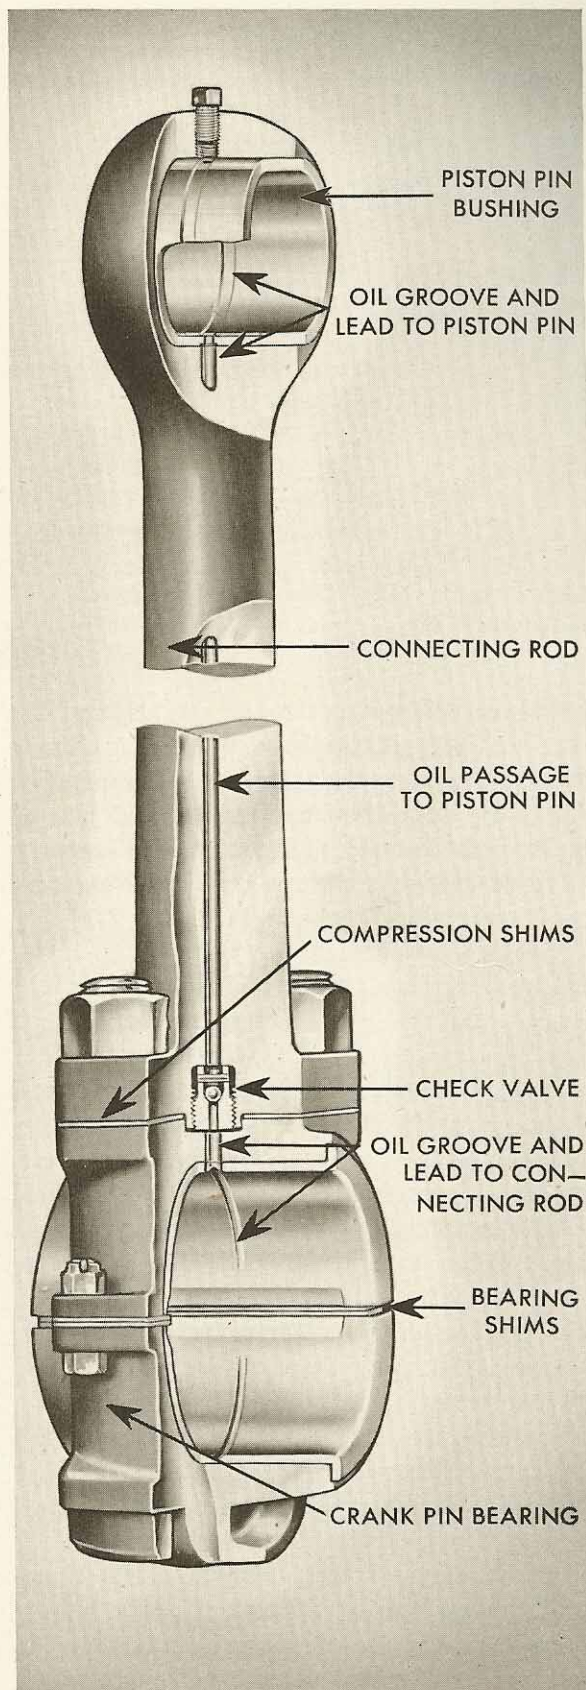

FIGURE 2-9
13. OIL PATH IN THE CRANK PIN AND CONNECTING ROD: The top half of the crank pin bearing is also grooved, and the oil delivered to the crank pin fills this groove. At the center of this groove there is a hole which is drilled the length of the connecting rod up to the piston-pin bushing. Oil travels up this hole to lubricate the piston pin. This construction is shown in Figure 2-9.